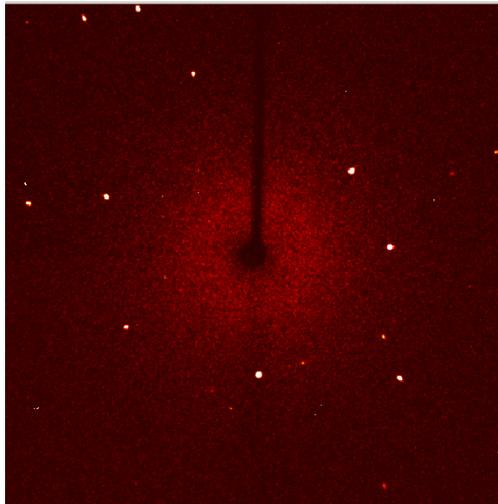
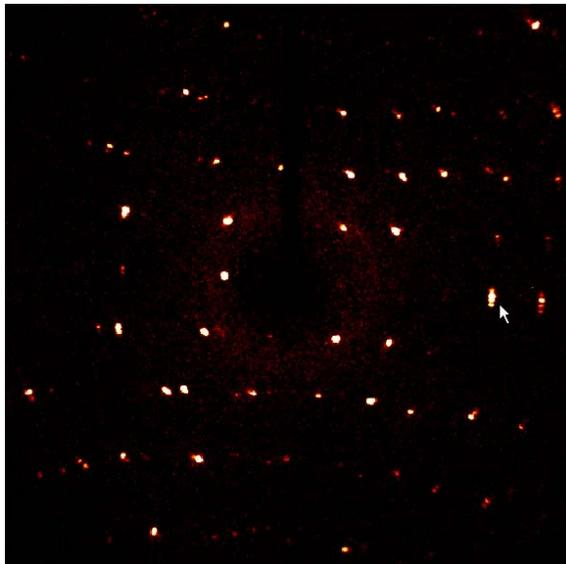

Figure 5.35 – A  $2^\circ$  phi scan at  $\text{phi} = +90^\circ$  on a good quality crystal. The spots' shapes are well-defined and the spots are well-separated.
Figure 5.39 – A  $2^\circ$  phi scan on a poor quality crystal at plus 90 in phi. The spot shape is poor and the spots are very close together.
8. Click **Drive + Scan**. The resulting  $2^\circ$  scan is shown in Figure 5.35. This image is measured  $90^\circ$  from the previous one, giving a view of the diffraction pattern from a different (perpendicular) direction. Figure 5.39 gives a similar view for the poor crystal.